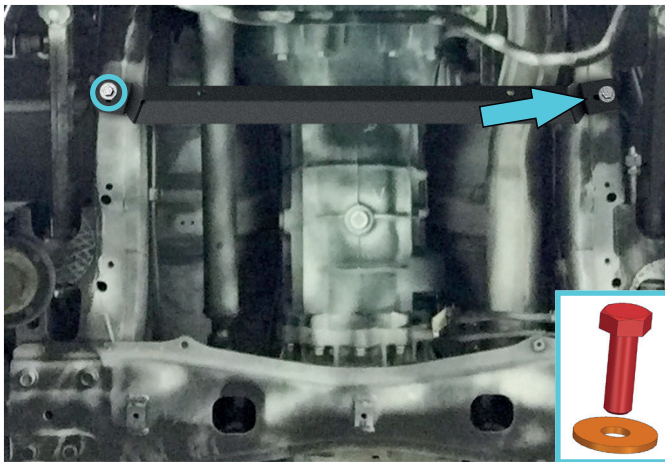

Fig. 3
3. Slide the left part of mounting bracket (item 2) on previously installed bolt M8x1.25x25 from step 2. Secure the right part of mounting bracket using bolt M8x1.25x25 with washer M8 (items A, B) as shown in fig. 3. ***Do not tighten yet.**